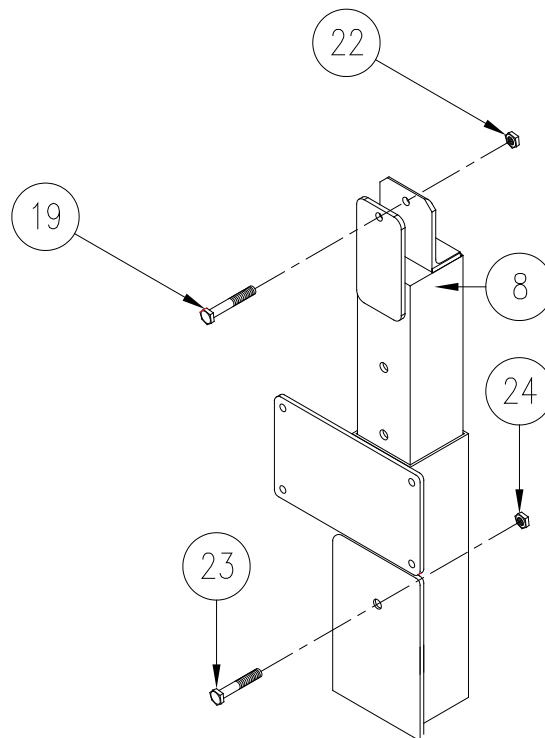

Figure 2-1.
1. Refer to **Figure 2-1**. Insert the opposite end of canopy extension leg (8) into top of vertical leg of lift. Adjust canopy extension leg to a position that is most suitable for your boat lift installation and fasten in place. Perform this assembly for each vertical leg as shown below.